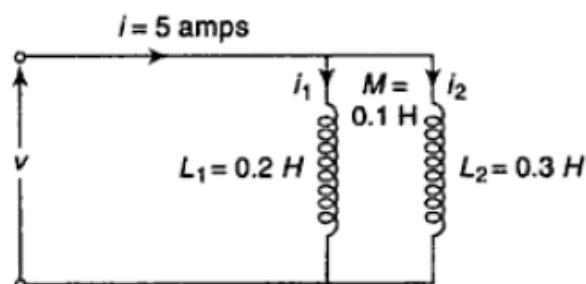

Fig. 3.17
3.17 Two coils are connected in parallel as shown in Fig. 3.17. Calculate the net inductance of the connection.